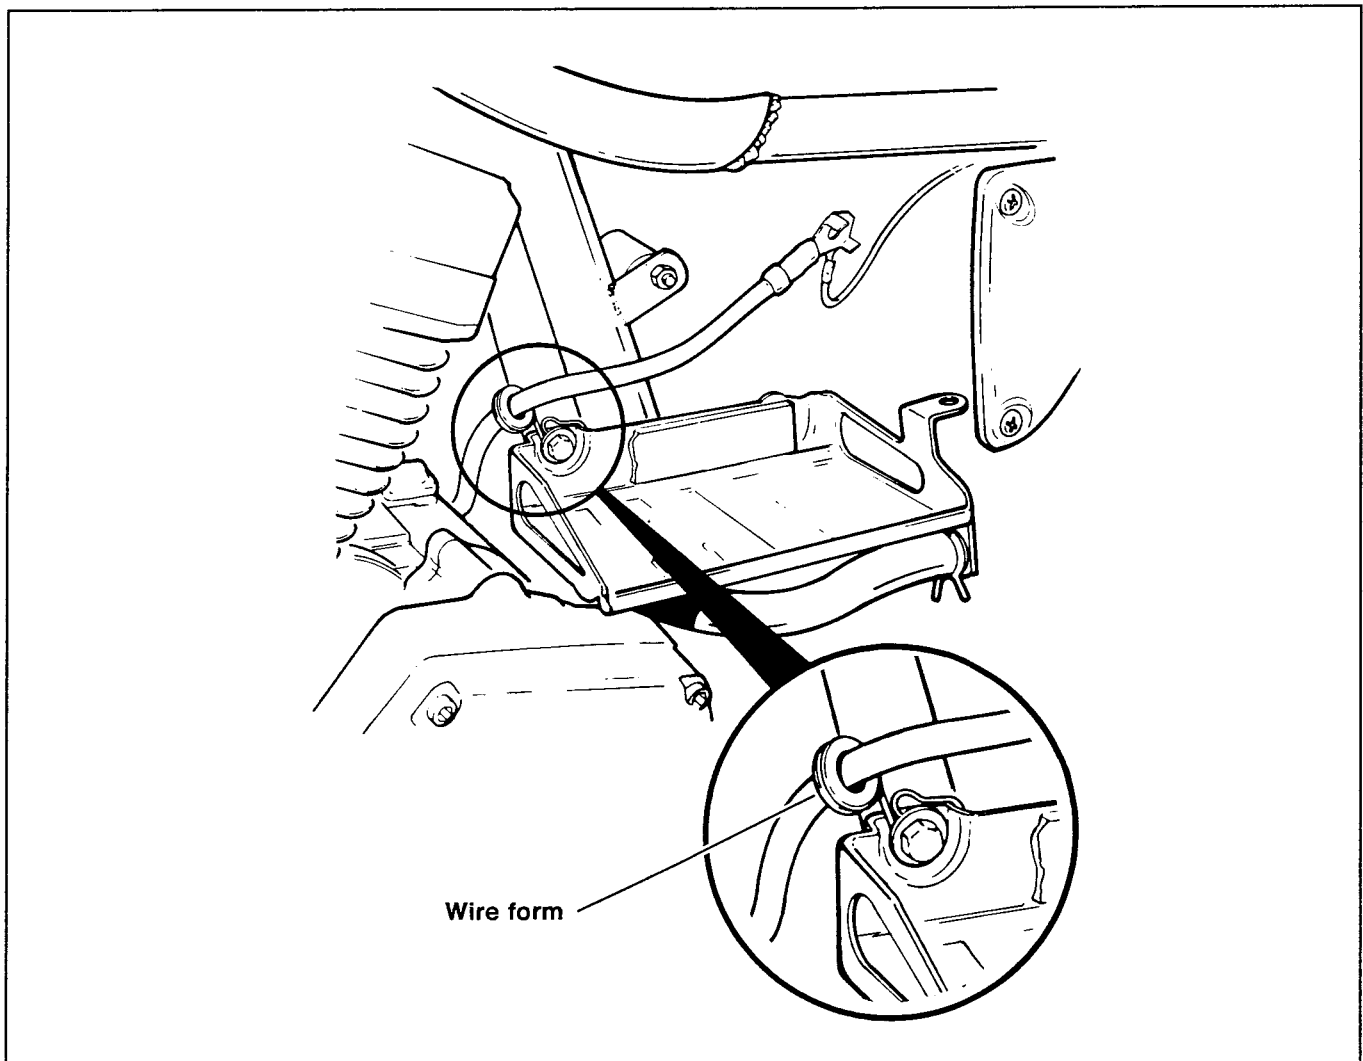

Figure 2. Cable Routing
8. See Figure 2. Route cable upward in front of oil tank . Guide cable between frame backbone and battery.
9. See Figure 2. Remove front battery carrier bolt. Install the longer bolt from the kit with wire form and washer. Wire form must be installed on battery carrier as shown to orient the cable correctly. Torque bolt to 19 ft-lbs torque.